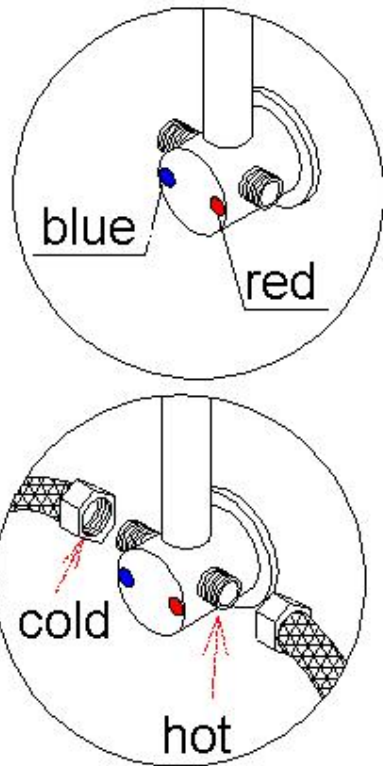

Fig 11
15. Connect hot water to the red mark water inlet and cold water to the blue mark water inlet (fig 11). Connect the drain flexible pipe (1 ½" outlet) to the drain opening in the floor;